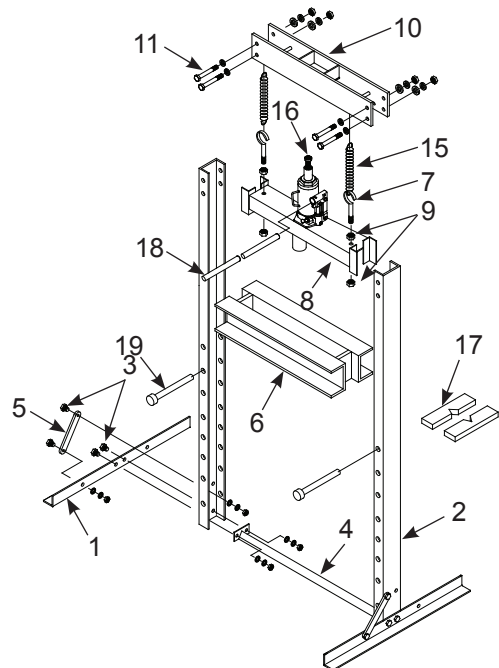

Figure 2 - Assembly Illustration for model Atd-7453
**Model Atd-7453:** (Refer to Figure 2)
1. Attach base legs (1) and lower cross member (4) to upright channels (2) with bolts, flat washers, lock washers and nuts (3). Hand tighten only.
2. Attach support links (5) to the base (1) and upright channels (2) with bolts, flat washers, lock washers and nuts (3).
3. Carefully slide bed frame (6) down to lowest possible position between the upright channels (2).
4. Attach screw hooks (7) to the jack bracket (8) with nuts (9) as shown in figure 2. Leave nut untighten to provide easy spring attachment.
5. Slide the jack bracket (8) down between upright channels (2) onto the bed frame (6).
6. Attach upper cross member (10) to upright channels (2) with bolts, flat washers, lock washers and nuts (11).
7. Attach one end of the springs (15) to the axles of upper cross member (10) and the other end to the screw hooks (7) on the jack bracket.
8. Carefully place the bottle jack (16) between the head plate of upper cross member (10) and jack bracket (8). Tighten the nuts (9) that hold screw hooks (7) to prevent jack from inadvertently falling out.
10. Carefully bring the bed frame (6) up and secure it with pins (9).
11. Place the Arbor Plates (17) on Bed Frame (6).
12. The press is now ready to use. Don't forget to insert the handle (18) into handle sleeve of bottle jack.